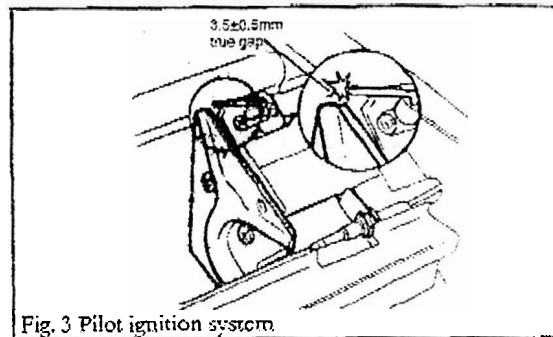

Fig. 3 Pilot ignition system
- 6.2 Check ignition electrode spark (see figure 3)